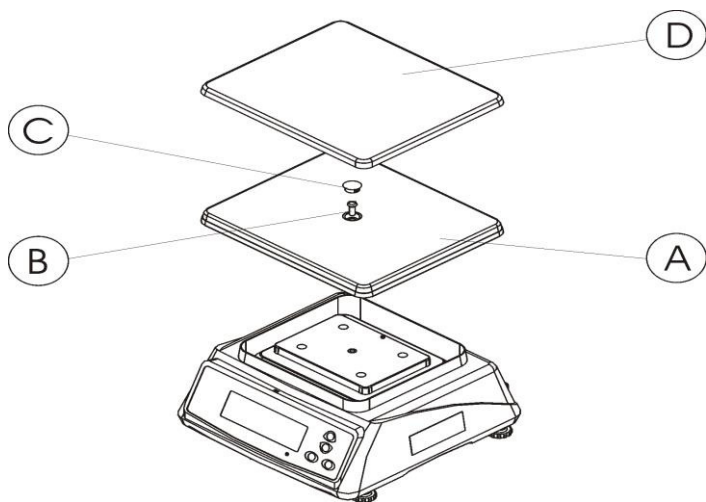

FIG 1
- 1.2 Lock the plastic platter (**FIG 1 A**) to the platter holder, with the screw (**FIG 1 B**) included and then apply the rubber cap (**FIG 1 C**).
- 1.3 Place the stainless steel platter (**FIG 1 D**) onto the plastic platter.